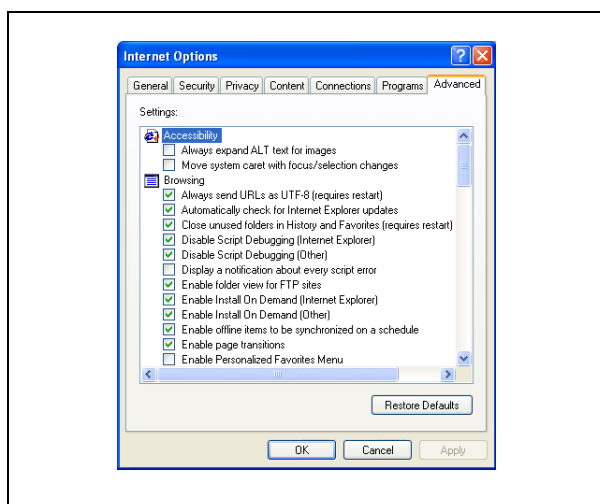

Fig. 3.12 'Enable Folder View for FTP Sites' Setting
### 3.12 Setting Up FTP Access – Figs. 3.12 to 3.15
- 'Enable folder view for FTP sites' is ticked – see Fig. 3.12.